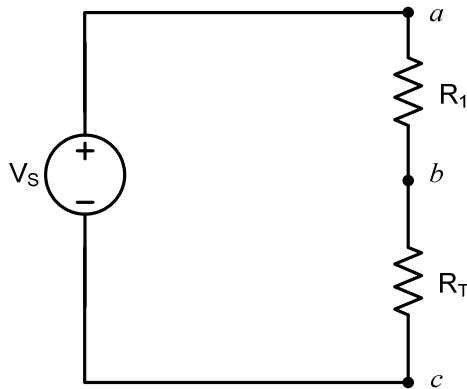

Figure 1. Voltage divider circuit.
- **Main idea:** by adding another (comparator) voltage divider in parallel to that shown in Figure 1, one could use differential voltage measurements around zero for improved sensitivity in sensor